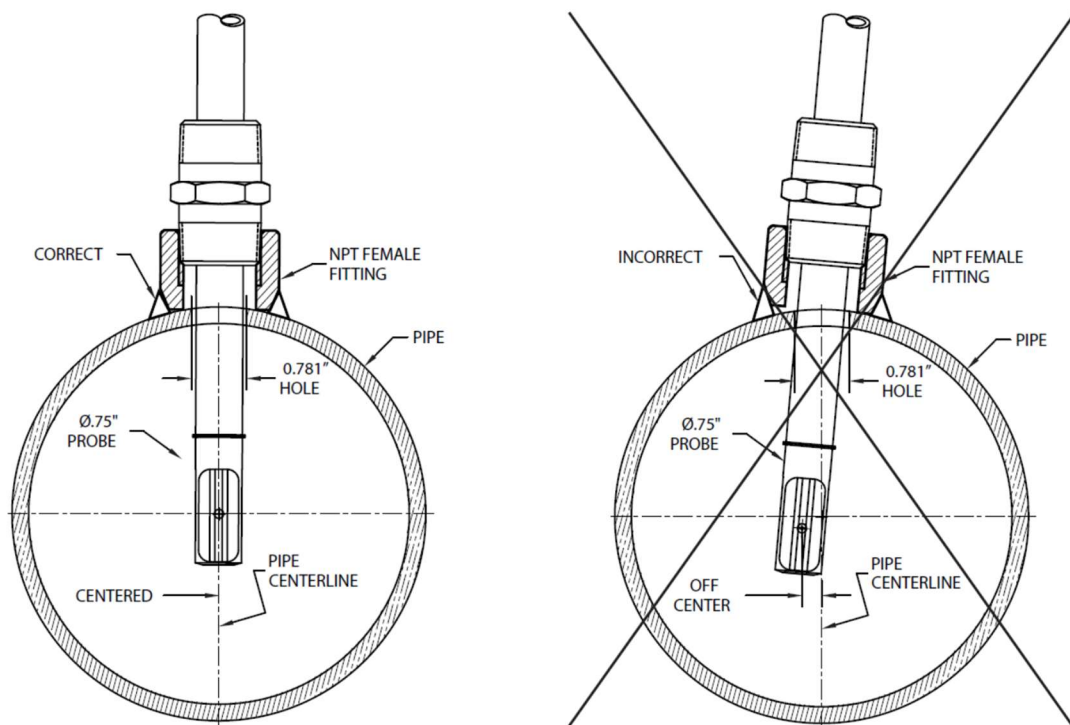
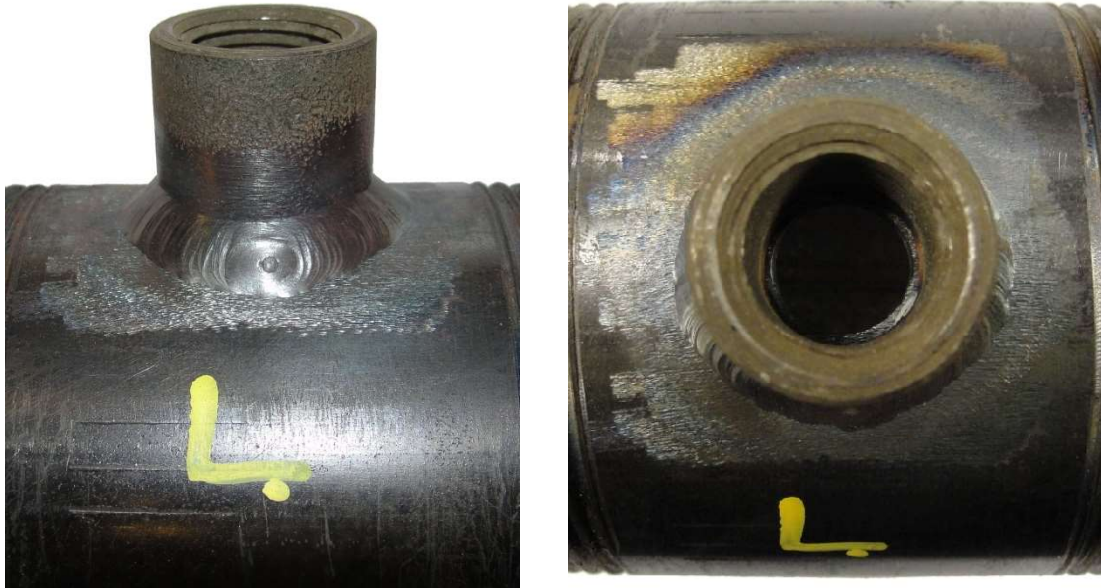

Figure 3: Mounting of a 3/4" NPT Half Coupling on the Pipe Centerline
Figure 4: 3/4" NPT Half Coupling Welded to Pipe with 13/16" Hole Drilled Through Center
5. If a 3/4" NPT or larger half coupling is not available in a suitable location, one will need to be welded onto the pipe with a 13/16" (0.813") or larger hole drilled through the pipe wall in the center of the half coupling. The coupling must be parallel to the pipe centerline, as shown in Figure 3, so that the probe can be inserted into the center of the pipe at a later step. The pipe should look similar to Figure 4 before the packing gland and the meter probe are installed.